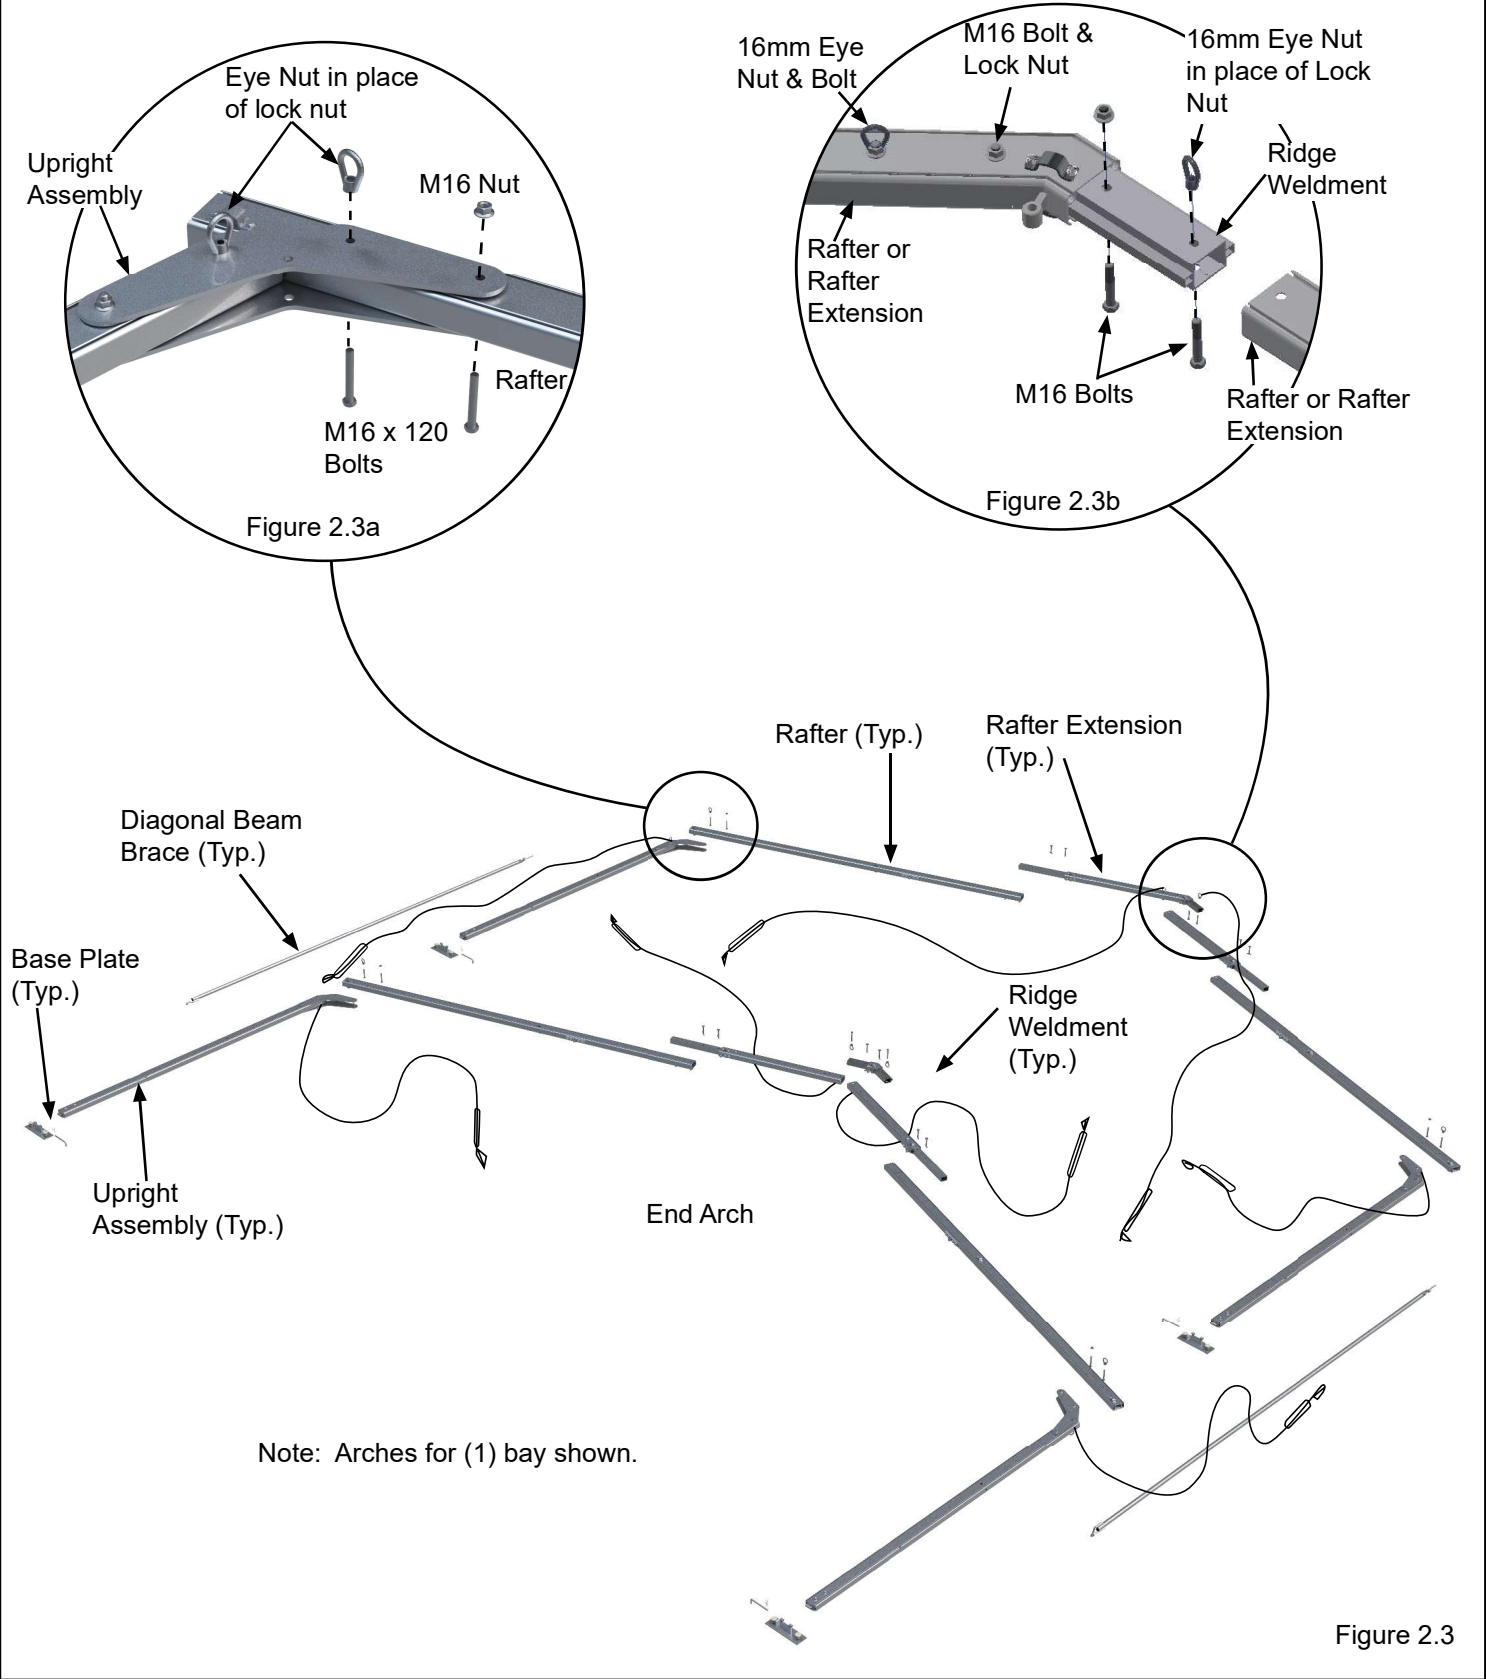

Figure 2.3
2.3 Assembly of Cable Bracing: Install the cables so that the turn-buckles at the uprights are closest to the ground and at the roof cables are closest to the eave. **See Figure 2.3.** The cables have color coded labels; green labels indicate upright cables and blue labels indicate roof cables. **IMPORTANT:** Upright and Roof Cable Bracing is required in the first and last bays of the structure and additionally at not more than **SIX** open bays between braced bays.